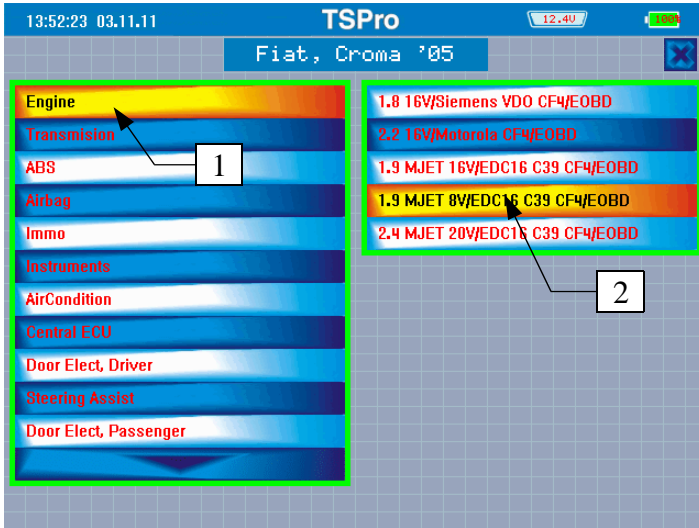

Figure 3.3
After selecting the model of the vehicle to be diagnosed, the ECU selection screen will appear. (Figure 3.3). First, the type of the ECU has to be set (1). Once the type of the ECU is selected, specific system of the electronic control unit must be chosen. The ECU system can be selected in the ECU system menu (2).